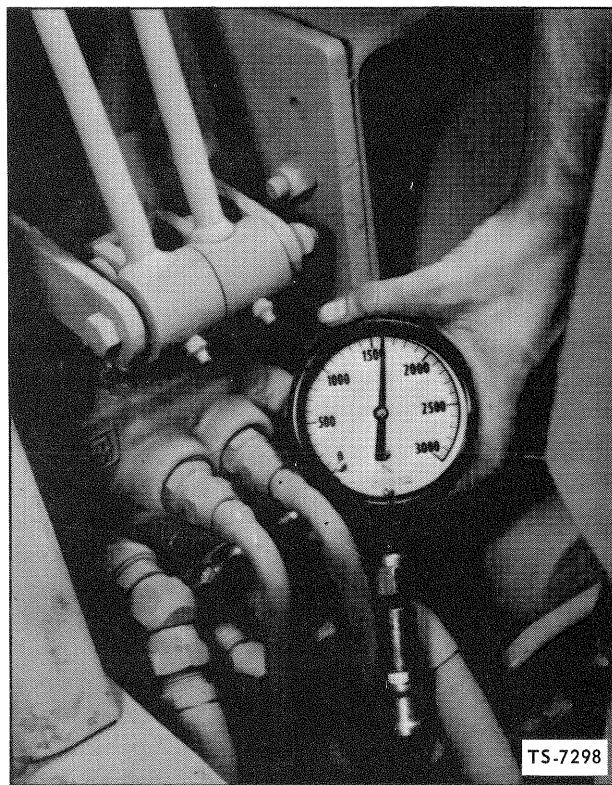

Fig. 21 Check Pressure – Main Relief Valve
3. Attach a hydraulic gauge of at least 3,000 p.s.i. capacity to the hose fitting on the main control valve. See Fig. 21.